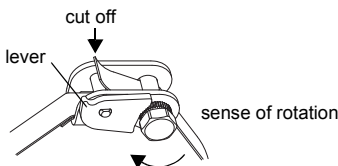

Fig. 7.19: Ratchet clasp with tension strap
- Cut off the protruding tension strap (see Fig. 7.19).
To release the screw and the tension strap press the lever down (see Fig. 7.19).